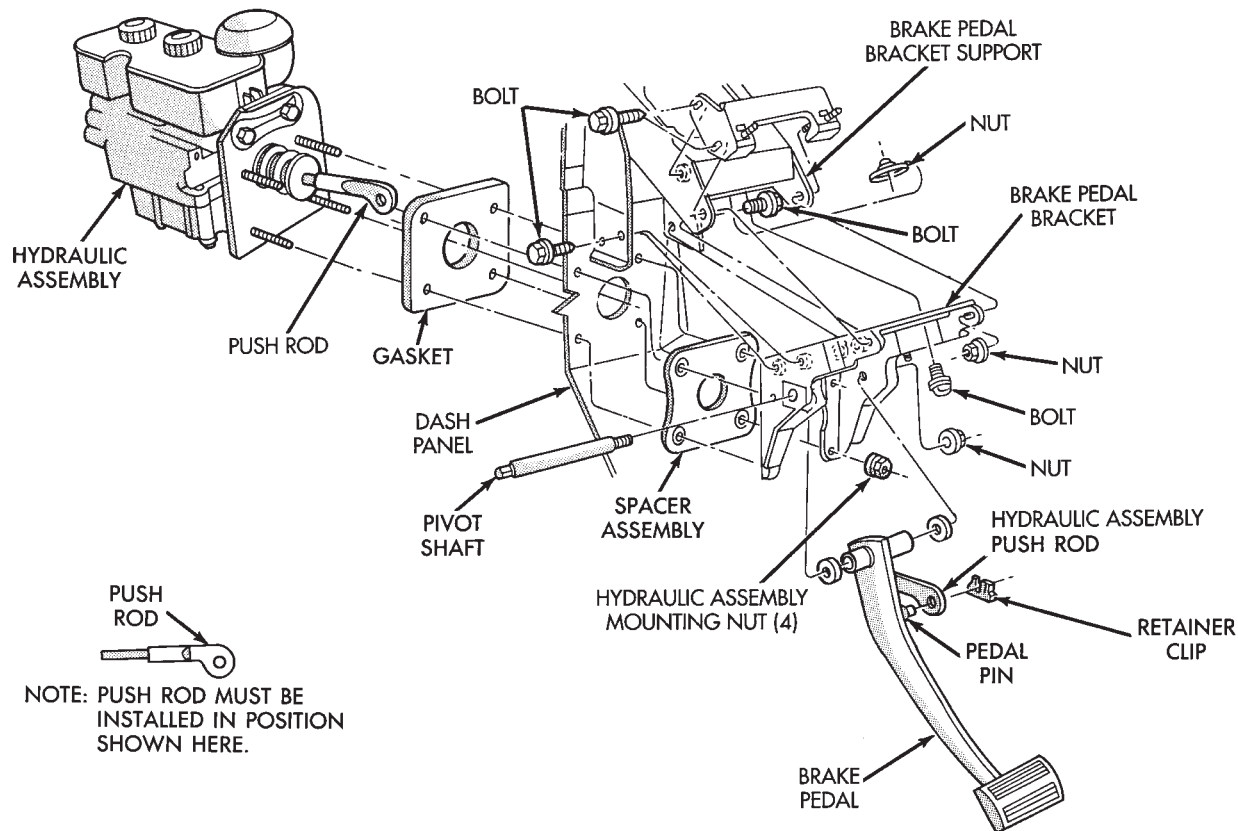

Fig. 8 Removing or Installing Hydraulic Assembly
(9) From under the instrument panel, position a small screwdriver between the center tang on the retainer clip and the pin in the brake pedal. Rotate the screwdriver enough to allow the retainer clip center tang to pass over the end of the brake pedal pin. **Discard the old retainer clip, a new clip must be used when hydraulic assembly is reinstalled (Fig. 8).**
- (10) Remove the 4 hydraulic assembly to dash panel mounting nuts from the hydraulic assembly mounting studs, located under instrument panel (Fig. 8).
- (11) Remove hydraulic assembly from vehicle.
- (1) Position the hydraulic assembly into its mounting holes on the dash panel of the vehicle.
- (2) Install and tighten the 4 hydraulic assembly to dash panel mounting stud nuts (Fig. 8) to 28 N•m (250 in. lbs.) torque.
- (3) Using lubriplate or equivalent, coat the bearing surface of the brake pedal pin.
- (4) Connect push rod to pedal pin and install a **NEW** retainer clip. **HYDRAULIC ASSEMBLY PUSH ROD MUST BE ASSEMBLED TO BRAKE PEDAL PIN IN THE POSITION AS SHOWN IN (FIG. 8).**